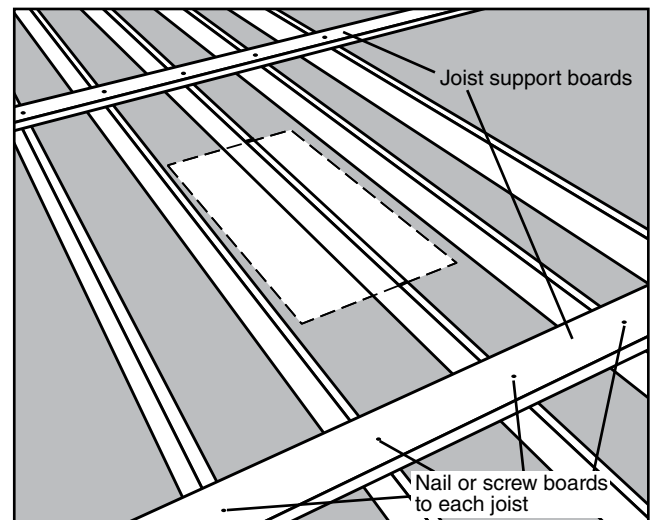

FIGURE 9
Step 2. Cut (2) joist-sized boards long enough to span (2) joists on each side of your chosen location (See Figure 9). These boards will support the joists that will be cut and help keep the ceiling from sagging or completely collapsing while you are working in the overhead space.
Step 3. Place these boards approximately 24" from the edge of your chosen location and nail (See Figure 9).